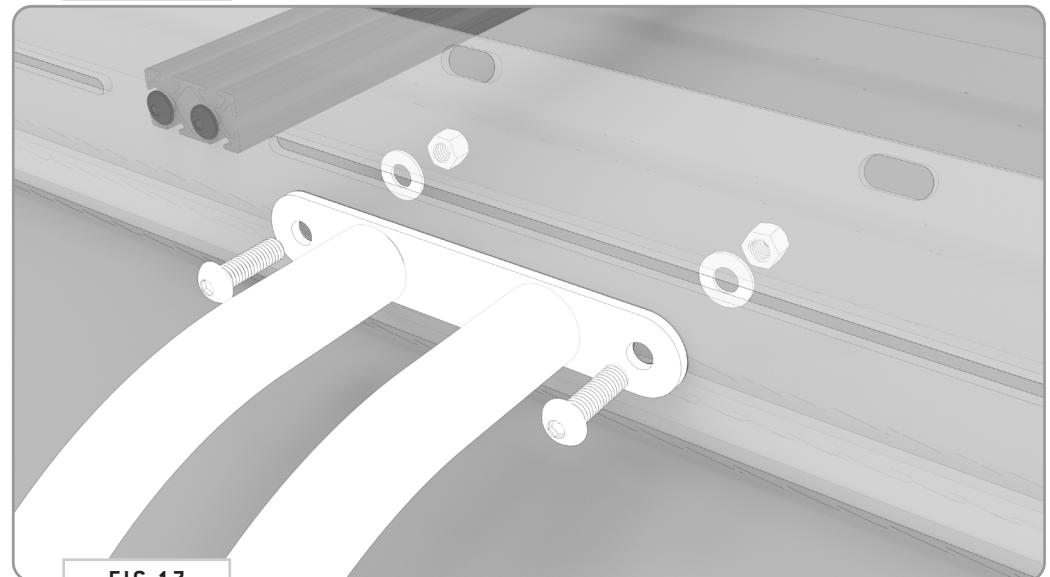

FIG 17
5.4 Attach to Roof Rack: Loosely attach your **Surf Pole** to the drilled out mounting holes as shown (**FIG 17**) using the provided **3/8-16" Button Head Screws, Flat Washers and Nylon Locknuts**.